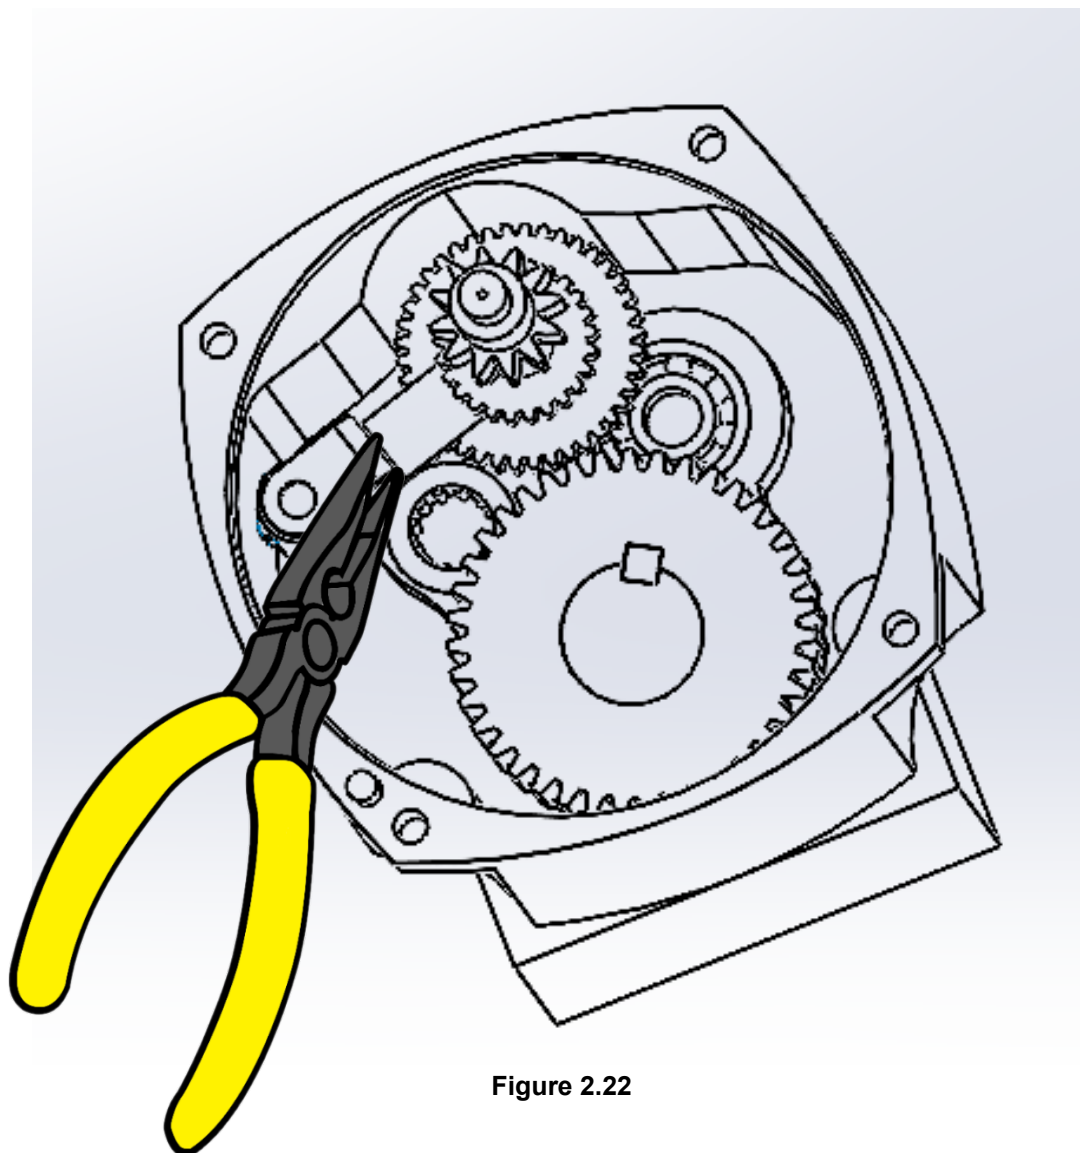

Figure 2.22
- 2.7.5 Turn clockwise to extract the inner part of the lever with the help of pliers as in figure 2.22;